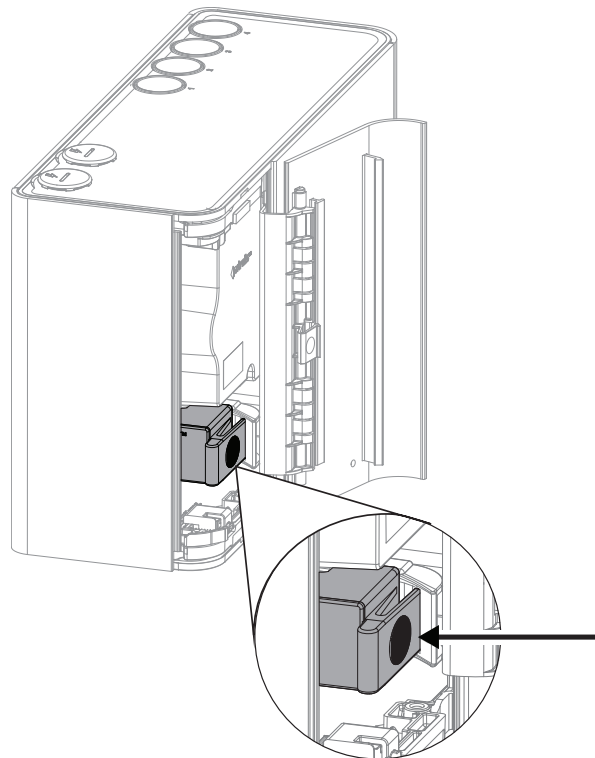

Figure 7-2: Release Filter
2. Press on release mechanism in the direction arrowed (Figure 7-2).